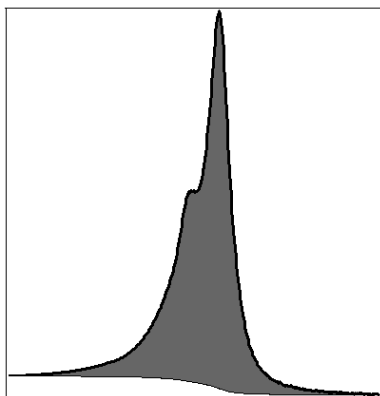

Fig. 6. 'WholePeak-Bkg' mode.
(3) 'WholePeak-Background' mode: firstly the background of a core level peak is subtracted by Shirley algorithm, and then the area of the core level peak without background is used as photoelectron intensity. The gray color is the area in Fig. 6.